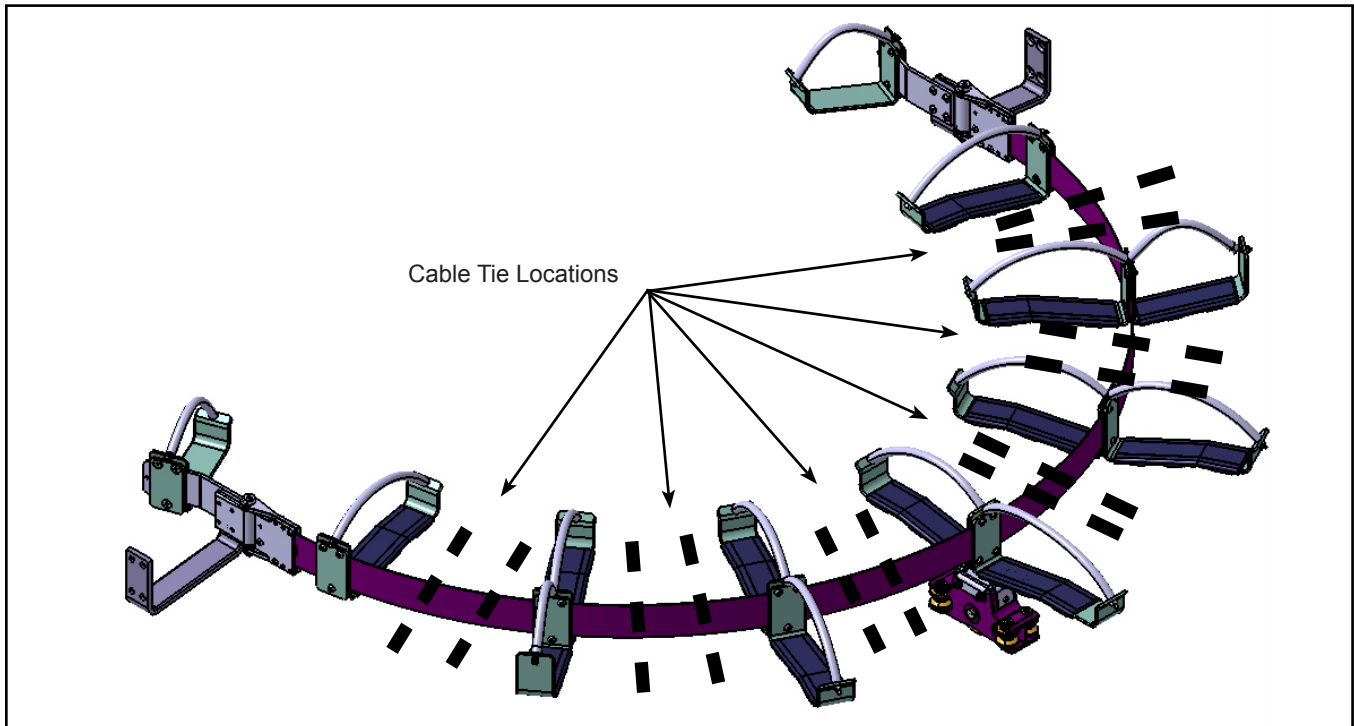

Figure 18 - Cable Tie Locations
1.21. For the new positions of the cable ties, see Figures 18 and 19. Remove the original cable ties facing the trays.
- 1.22. Position the locking mechanism of the cable ties to avoid chafing. They must be facing away from any hose, cable or tray. See Figures 18 and 19.